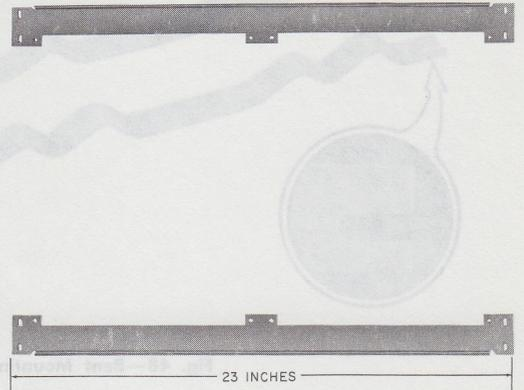

Fig. 47—813538733 (P-35C873) Mounting Bar
10.07 The 813538733 (P-35C873) mounting bar (Fig. 47) has two bars needed to mount one or two 811331131 (P-13C113) frame assemblies (31A apparatus mounting less welded hinge and fastener details) on a 23-inch wide relay rack. It is furnished with four 803534468 (P-353446) RHM screws.